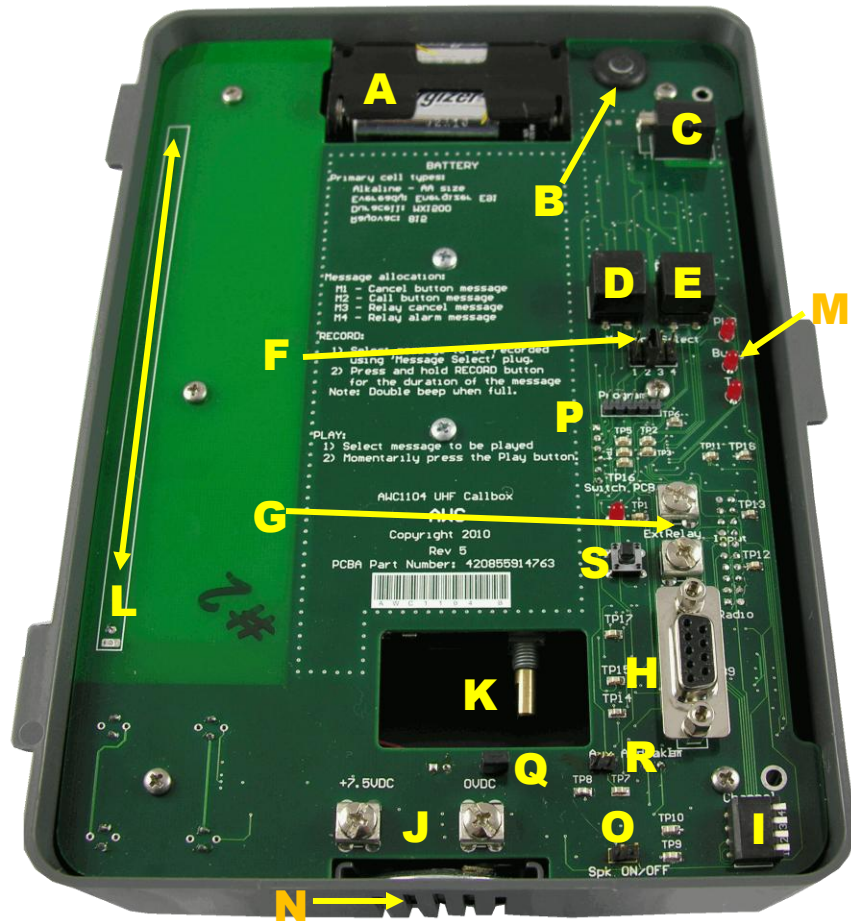

Figure 2
When batteries are installed, the unit will automatically begin to operate. You can verify operation by checking the Power LED (Top LED shown in “M” on Figure 2). It will blink once every minute approximately.
First, insure that you have new batteries of the proper type inserted into the battery pack in location (A) on figure 2.
With the jumper selected, press and hold the RECORD button, the red BUSY LED will light indicating recording is enabled. Speak into the built-in microphone (“B” in Figure 2); release the RECORD button when finished. If you speak too long you will hear two beeps and the red BUSY LED will go out. You are allowed approximately 60 seconds recording time total for all 4 recordings. If you are not using the external activation device, you have 60 seconds between 2 recordings.
The AWCBX400 Call Box has the ability to hold 15 pre-programmed channels programmed into the device. You may select the channel used by setting the channel dip switches ("I" in Figure 2) using a pencil or very small screw-driver.
The AWCBX400 Call box uses “Super Capacitors” to store a charge. This means that even after the batteries are removed or the battery disconnect jumper (“Q” in Figure 2) is removed, there will still be enough voltage to operate the radio in the call box for about 3 transmissions. Care must be taken to bleed off the charge before servicing or shipping this device. To bleed off any charge, press the front call box button and cancel button. Repeat until the unit goes dead.